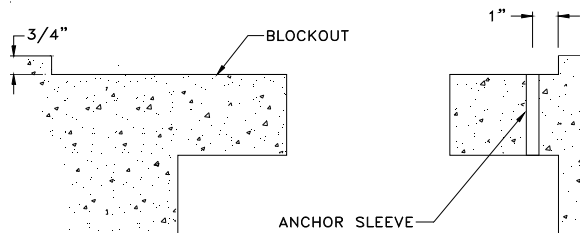

Figure 3
**STEP 8.** After all of the anchor sleeves have been affixed to the concrete forms, pour the concrete. Level and finish the concrete in accordance with standard industry practice and all applicable requirements. Ensure that the anchor sleeves remain affixed in their proper positions. After the concrete has cured, remove the forms (see Figure 3).